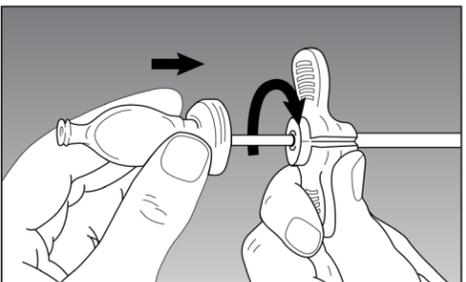

Figure 1
9. Insert vessel dilator into sheath and rotate the dilator cap over valve housing to secure the dilator onto sheath assembly (see Figure 1).